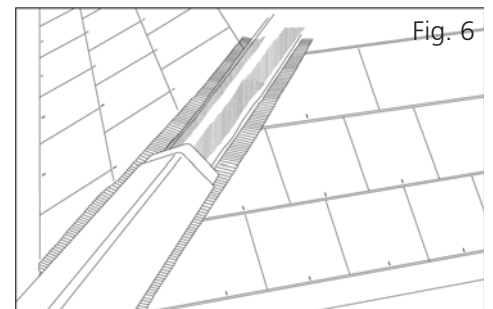

Fig. 6
4. Fix ridges as normal along the length of ridge roll. (Fig 6)